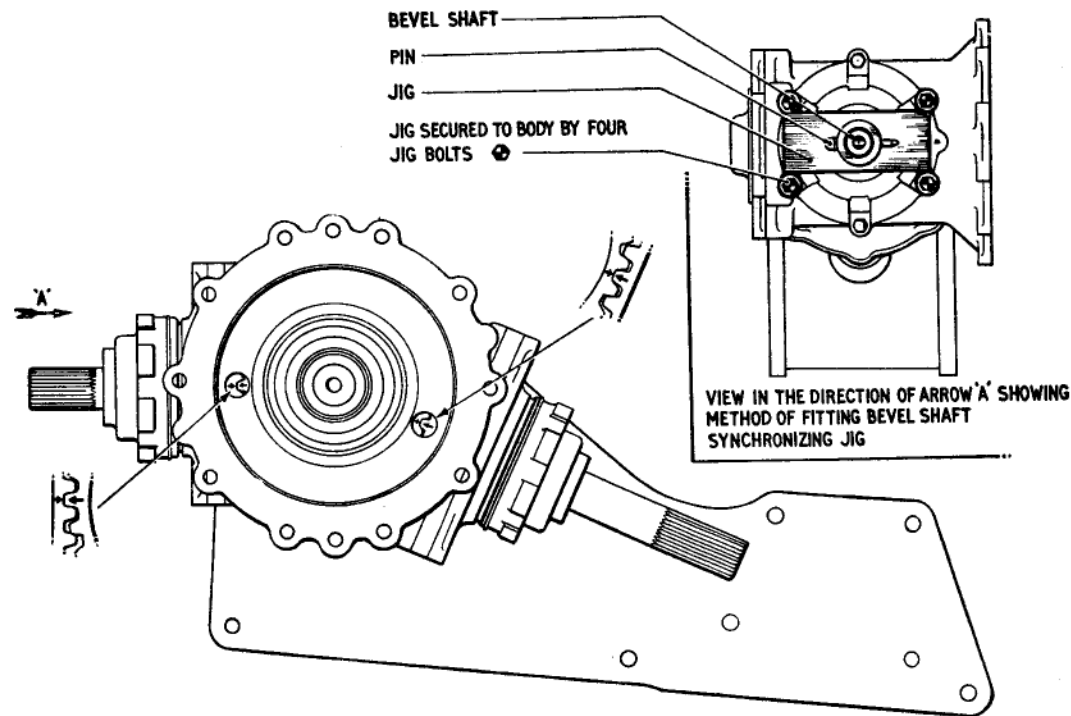

Fig. 17. Gear teeth alignment—final drive
- (5) Turn the bevel wheel (40) until the red arrow on the tooth is seen through the left-hand inspection hole (fig. 17) in the casing and the red arrow in the gap is seen through the right-hand inspection hole when viewed from the fixing flange end.
- (6) Hold the bevel wheel in this position and mesh its marked tooth with the marked gap on the bevel shaft (17).
- (7) Adjust the bevel wheel (40) by the shaft shims (38) to give correct meshing of both gears. This is obtained when the back cone faces, as seen through the left-hand inspection hole, are flush, taking care that a nominal backlash of 0.005 in. remains.
- (8) Assemble the synchronizing jig (fig. 17) over the end of the bevel shaft (17) and secure it to the casing by four jig bolts. Secure the shaft to the jig with the attached pin, thus ensuring